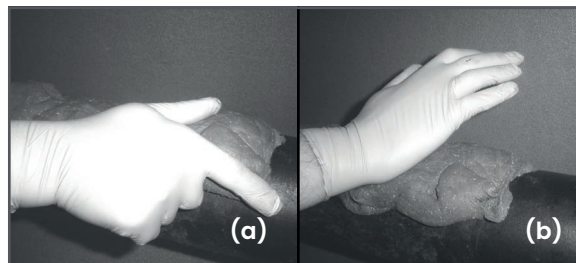

Figure 39: Applying the DMP-3 Material
5. Place a piece of the DMP-3 material on top of the pipe (*Figure 39*), and use the palm of the hand to press it onto the pipe (see *Figure 39*).